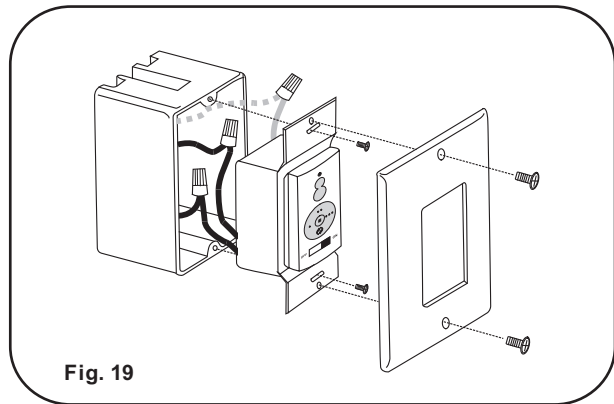

Fig. 19
Step 3. Carefully tuck the wire connections inside the outlet box. Use the screws provided to secure the wall transmitter and wall plate to the outlet box. (Fig. 19)